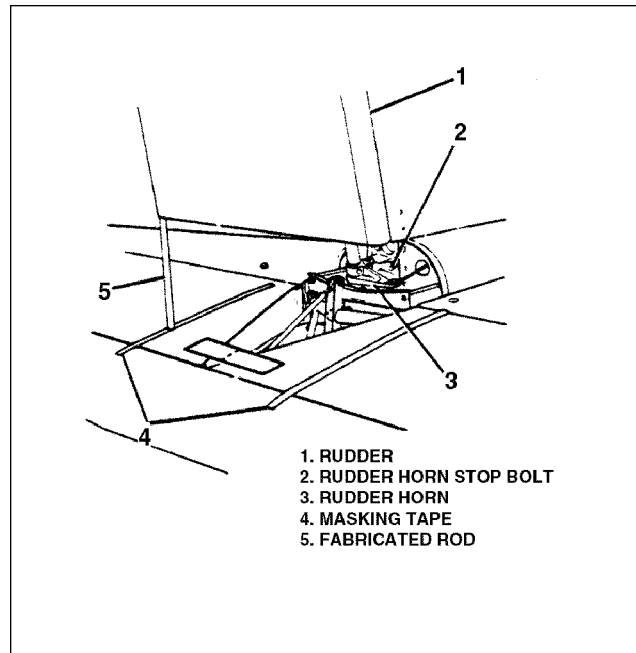

Figure 5-11. Checking Rudder Travel
4. With the small rod inserted into the trailing edge of the rudder, swing the rudder in both directions to determine that the pointer intersects the inboard edge of the tapes. (Refer to Figure 5-11.)